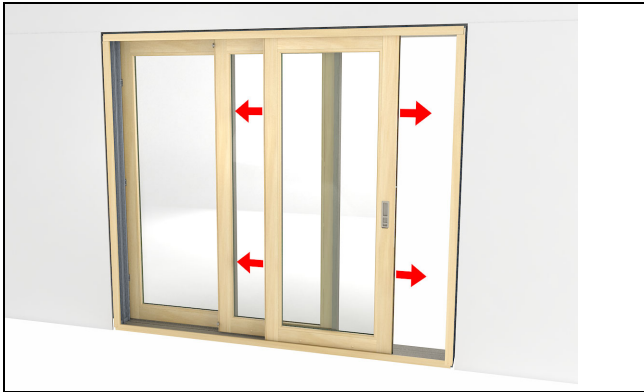

Figure 53
4. Operate the doors to ensure smooth movement and check positioning of the interlocks, head jamb, side jambs and lock engagement. Make any necessary adjustments at this time. See figure 53